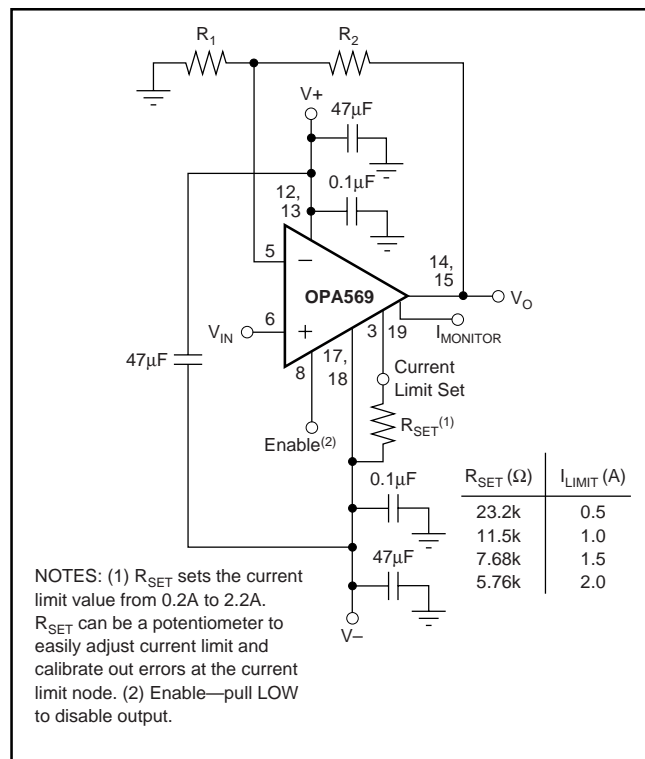

FIGURE 1. Basic Connections.
NOTES: (1) See typical characteristic "Maximum Output Voltage vs Frequency." (2) See the typical characteristic "Total Harmonic Distortion + Noise vs Frequency." (3) Swing to the rail is measured in final test. Under those conditions, the A_{OL} is derived from characterization. (4) See Safe Operating Area (SOA) plots. (5) See typical characteristic, "Overshoot vs Load Capacitance." (6) External current limit setting resistor is required. See Figure 1. (7) I_{LIMIT} is the value of the desired current limit and is equal to $9800 (I_{SET})$, where I_{SET} is the current through the Current Limit Set pin (pin 3). Errors from this parameter can be calibrated out—see Applications Information section. (8) V_{SET} is a voltage reference that equals the difference between the voltage of the Current Limit Set pin and $V-$, and is referenced to the negative rail. Errors from this parameter can be calibrated out—see Applications Information section. (9) % Tolerance = $[(I_{OUT}/475) - I_{MONITOR}] \cdot 100/I_{MONITOR}$.
Figure 1 shows the OPA569 connected as a basic non-inverting amplifier; however, the OPA569 can be used in virtually any op amp configuration. A current limit setting resistor (R_{SET} , in Figure 1) is essential to the OPA569's operation, and cannot be omitted.